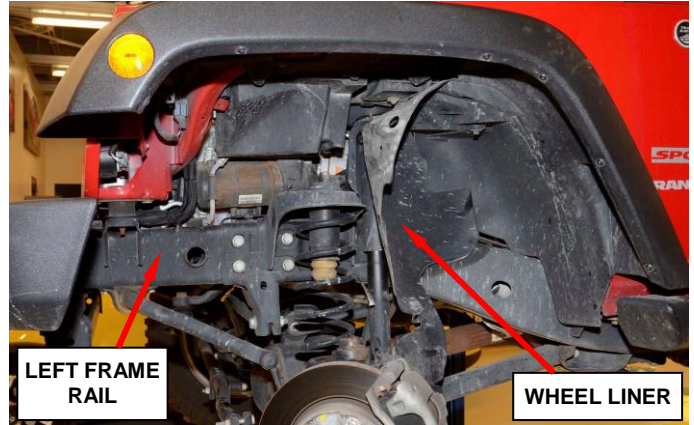

Figure 1 – Left Front Wheel Liner
4. Partially remove the left front wheel liner to gain access to the transmission oil cooler tube and power steering return tube (Figure 1).